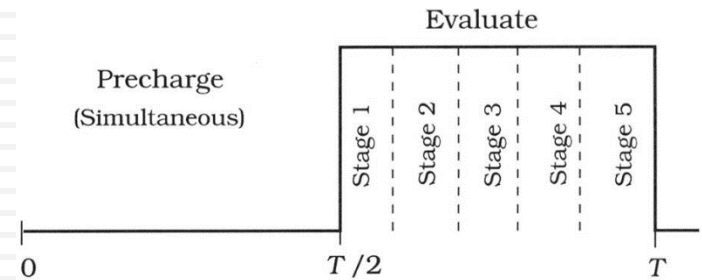

Figure 15.24 Timing sequence in the domino cascade
- In Figure 15.24, the data transfer into and out of a dynamic logic cascade is sequenced with the clock